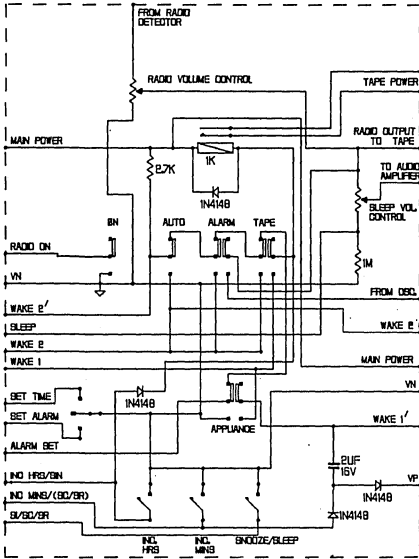

Fig.14 RADIO SWITCHING
- Option 1 Push button operation (Fig.14)